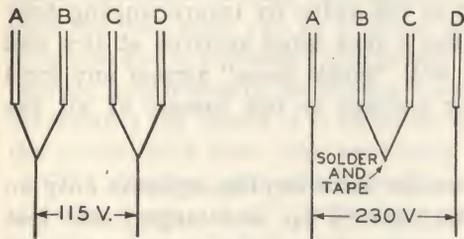

Fig. 18-1. By reconnecting the leads, the motor can be used on either 115 or 230 volts.
**Dual-voltage Motors:** Larger single-phase motors are usually designed so that they may be operated at either 115 or 230 volts. The motor has four leads. Connected one way, the motor operates at 115 volts; connected the other way, it operates at 230 volts. See Fig. 18-1.